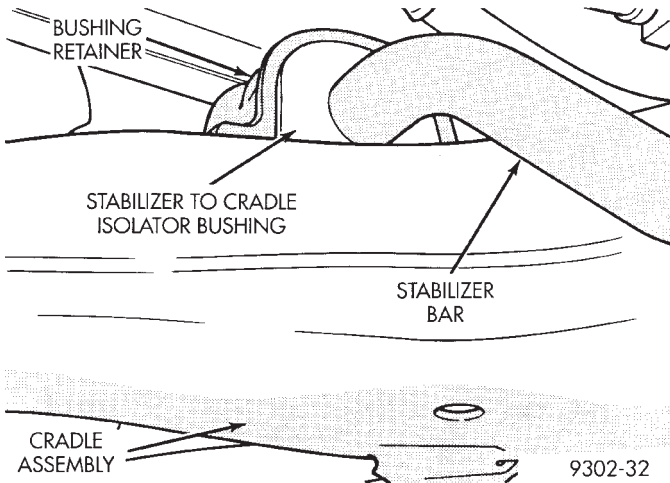

Fig. 49 Stabilizer Bar Isolator Bushing Attachment To Cradle
(8) Remove the 4 bolts (2 each) attaching the stabilizer bar isolator bushing retainers and bushings to the cradle assembly (Fig. 49).
(5) Untie the stabilizer bar from brackets and position it on cradle assembly. Align the stabilizer bar bushing retainers with the mounting holes in the cradle assembly. Install but do not tighten the 4 bushing retainer to cradle assembly mounting bolts (Fig. 49). The 4 retaining bolts will be torqued when vehicle is lowered to the ground.